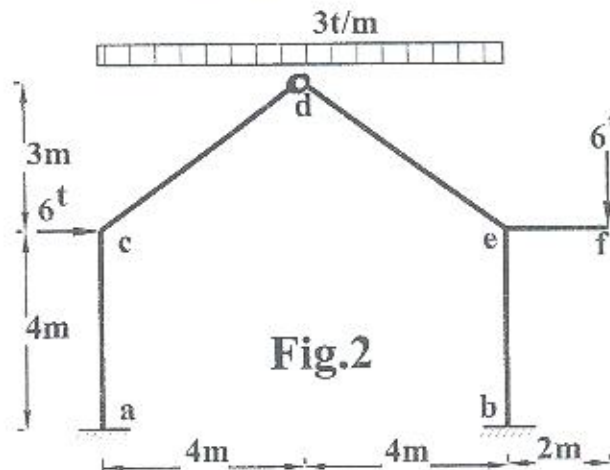

Fig.2
- 2- For the fram shown in Fig. 2, using the force method (20%):